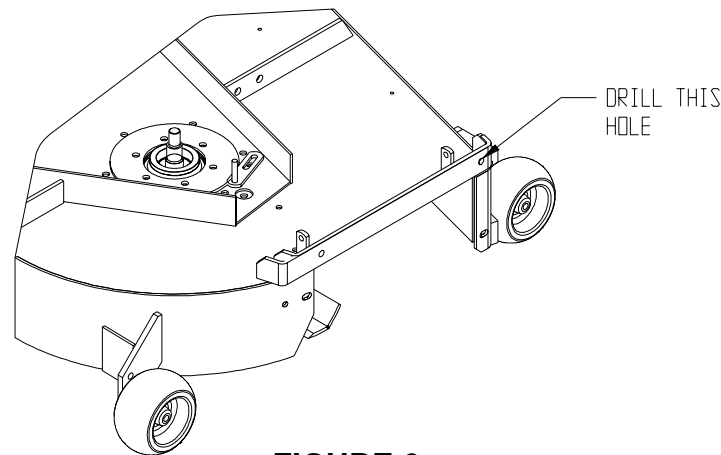

FIGURE 6
20. 72" units below serial number 260,000 will require the deck to be modified by adding the accessory mounting tube. Exmark kit 103-0583 contains the parts and templates required. Follow the instructions in this kit. These decks will also require drilling the hole at the front upper corner of the discharge opening to ½ inch diameter. (See Figure 6). Touch up with red paint Exmark P/N 850337.